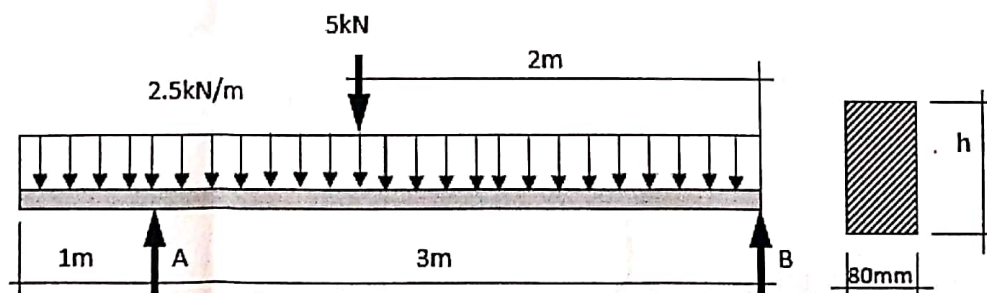

Figure Q5
5. For the loaded beam shown in Figure Q5. Determine the minimum height h of the beam section, given that the allowable stress in the beam is not to exceed 20MPa . [20 Marks]